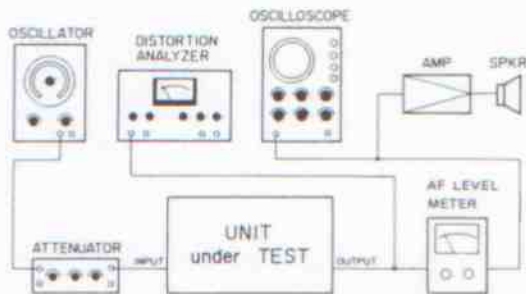

Fig. 7-6-14. Distortion Measurement Set-Up
1. Connect test equipment as shown in Fig. 7-6-14.